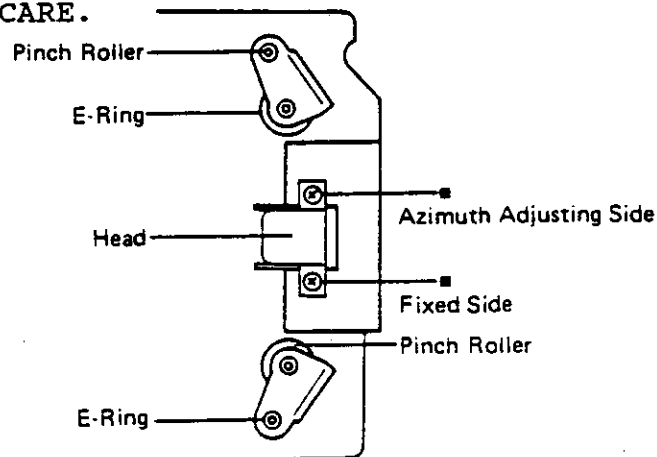

FIGURE 4-21. HEAD PC BOARD REMOVAL
- e. Remove two screws (marked ■ ) and the head flexible PC board will be removed. (In this case take care not to miss the spacer and the coil spring.) (see Figure 4-21).
- b. Remove two E-rings securing the pinch roller and the pinch roller will be removed (see Figure 4-21).